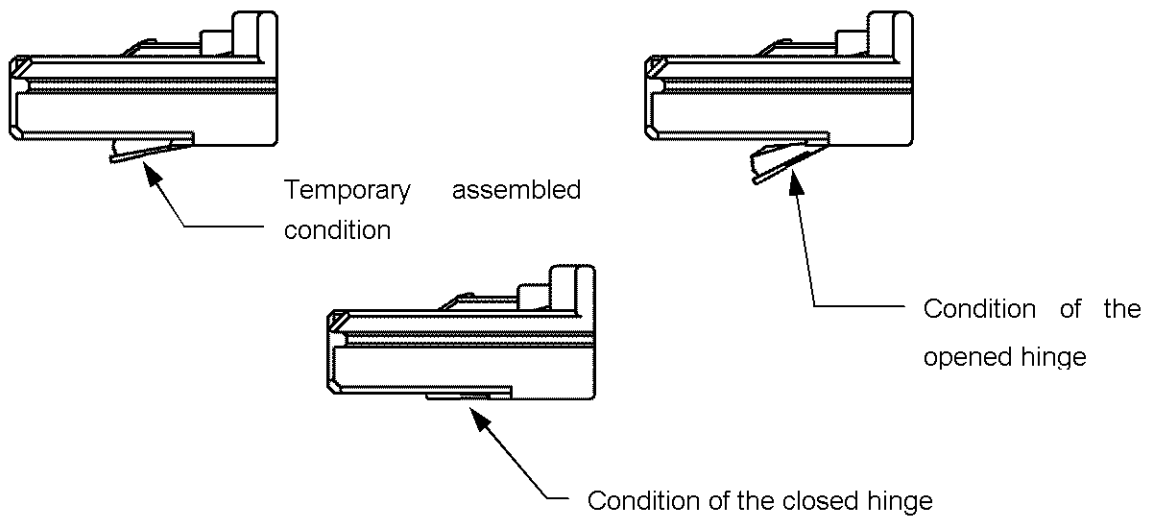

Fig.12
(1) Insert the terminals into the housing with same direction as shown in Fig.12. The insertion is finished when you hear click sound and the terminal can not be with drawn.
(1) When the female terminal requires insertion or to extraction, the retainer must be in the pre-assembled condition. The insertion or extraction can not be done in final lock condition using a driver such as 1mm blade screw one, draw out the retainer to pre-assembled condition. Turn up hinge part as Fig.12 and make it temporary assembled condition or opened condition.